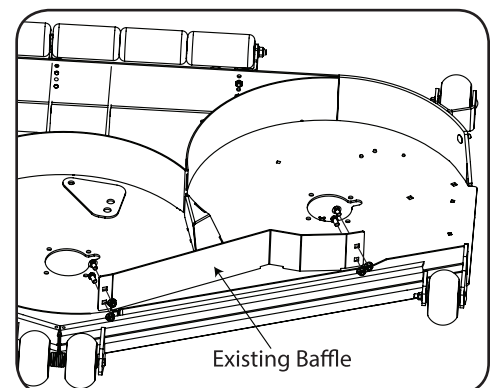

Figure 1-3
5. Remove the existing baffle from the underside of the deck by removing the four bolts and flange lock nuts that secure it to the deck. See Figure 1-3.